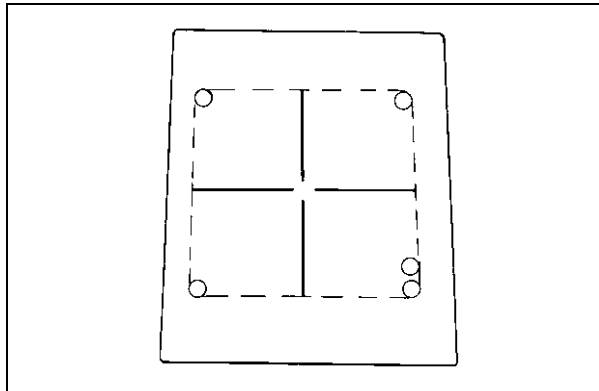

Fig. 33:
- Mark the four corners of the light field with coins and identify one of the corners with an additional coin. (Fig. 33 / p. 55) .